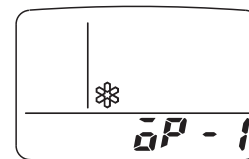

Fig. 10
- d) ❄ appears with “oP-1” blinking in the remote controller clock display area. (Fig. 10)